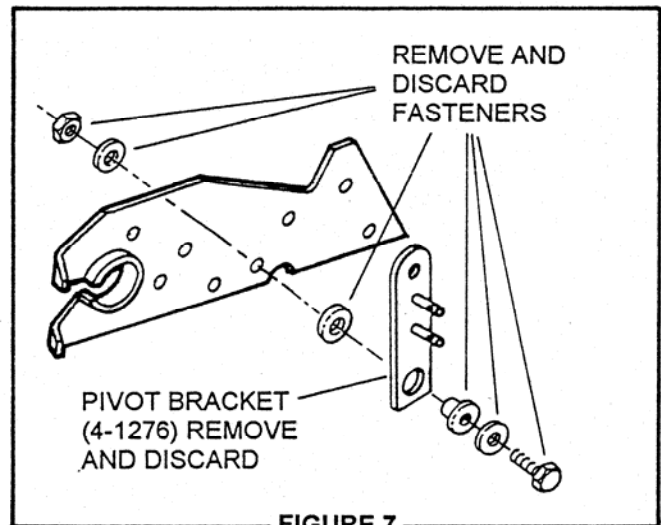

FIGURE 7
STEP 6: Remove pivot bracket and associated fasteners from hitch and discard. See Figure 7.